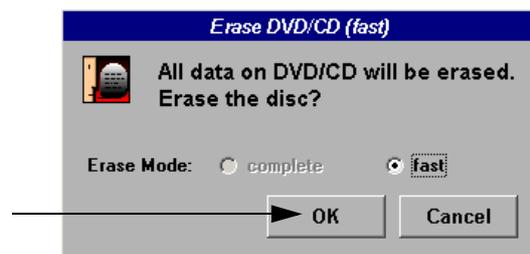

Figure 4-15 Erase DVD/CD Window
- 2.) Insert the medium and select the **DVD/CD** icon. The unit displays the "Erase DVD/CD" window as shown in Figure 4-15.